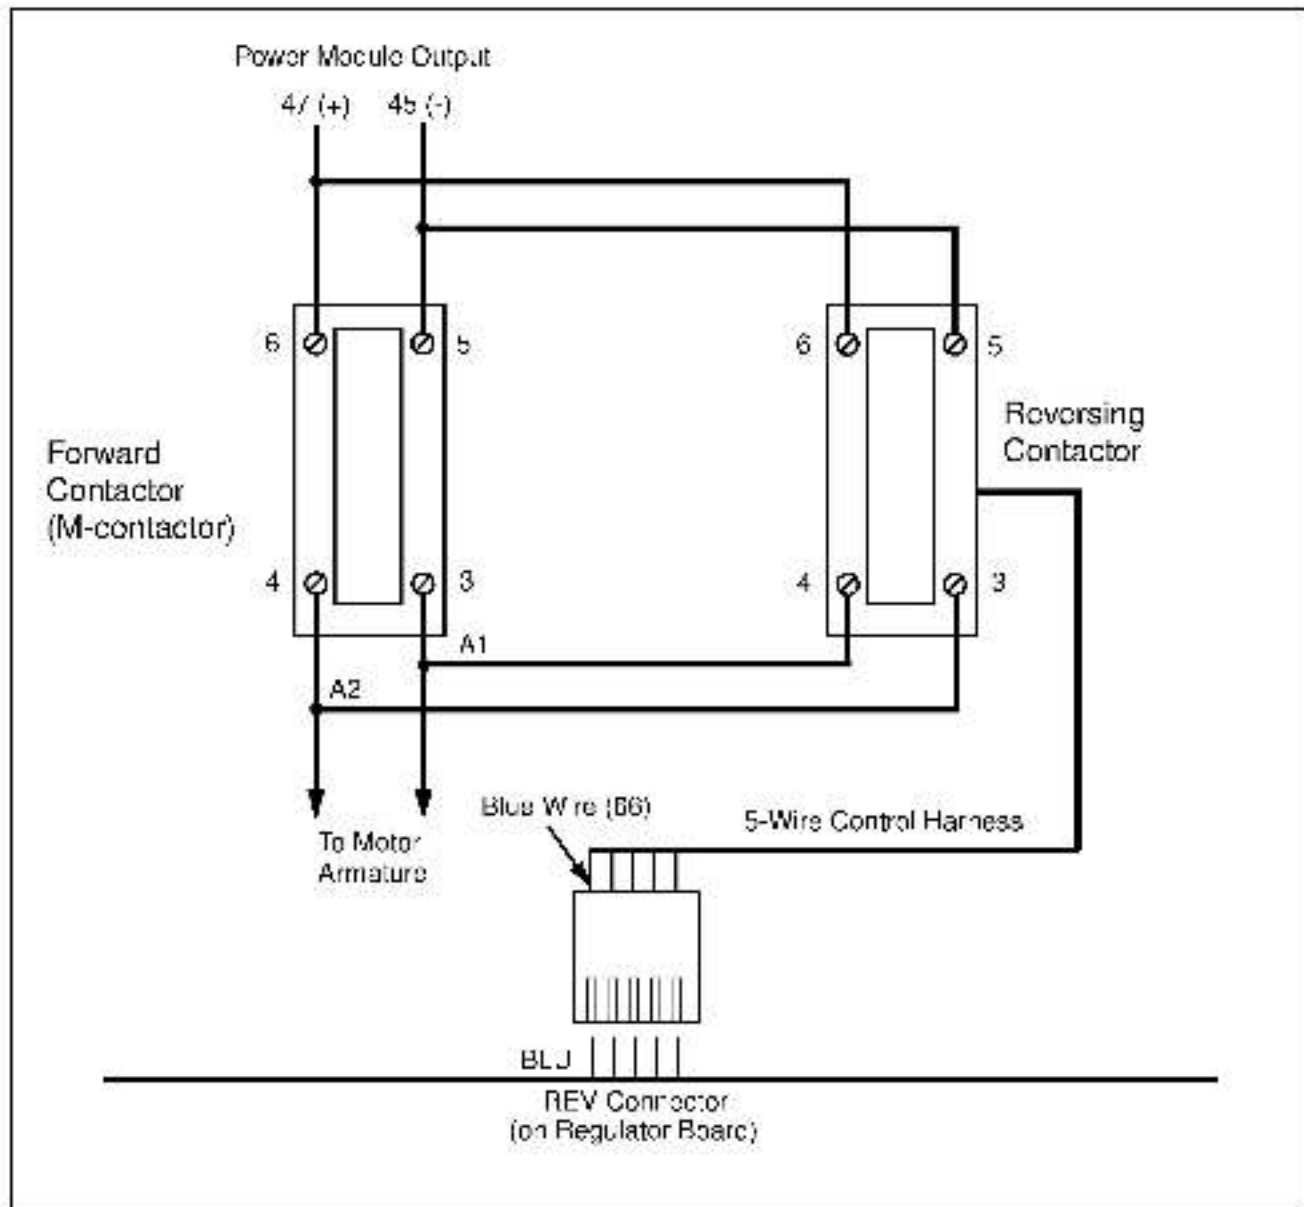

Figure 1 - Power and Control Wiring
Refer to figure 1 and to instruction manual D-3900 to identify drive terminals and connectors. To install the Reversing Contactor in your non-regenerative FlexPak Plus DC drive:
- Step 12. **Drives with Dynamic Braking Kits Installed:** Connect the Dynamic Braking kit between the two corresponding normally-closed (NC) contacts on the M-Contactor and the Reversing Contactor. Refer to instruction manual D2-3378 for information on installing the Dynamic Braking kit.
Step 13. Route the Reversing Contactor's 5-wire control harness behind the front bar of the auxiliary mounting bracket. Connect the harness to the pins marked "REV" at the top center of the drive's Regulator board. Orient the connector so that the blue wire (66) connects to the pin labeled "BLU." Refer to figure 1.